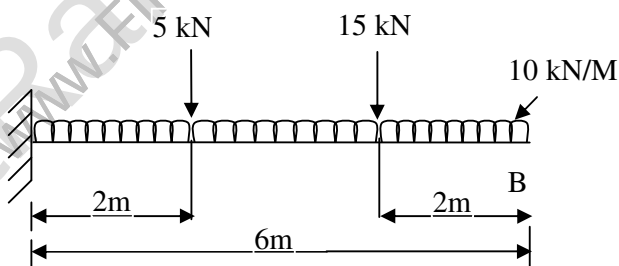

Figure 3
- b) Draw S.F.D and B.M.D for the cantilever beam shown in Figure 3.